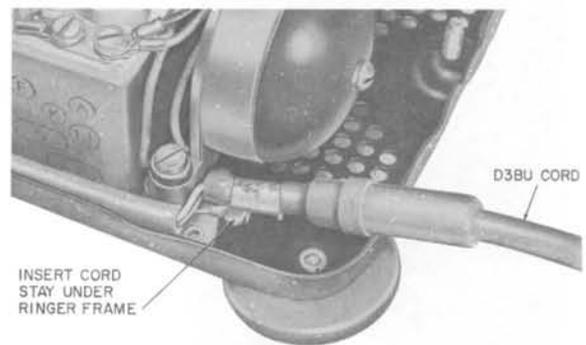

Fig. 5—Installing Extra Length Cord
- (1) Remove ringer mounting screw (Fig. 5).
- (2) Insert cord stay under ringer frame.
- (3) Reinsert mounting screw.
- (4) Position cord grommet so that cord is protected where it enters set.